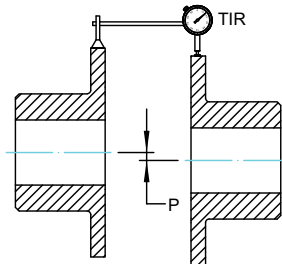

Figure 7 - Parallel Offset (TIR) Measurement.
8.5. When Parallel Offset is measured by rotating the hubs in unison with dial indicators as shown in Figure 7, the total indicated reading (TIR) should be divided by (2) to calculate “P”.